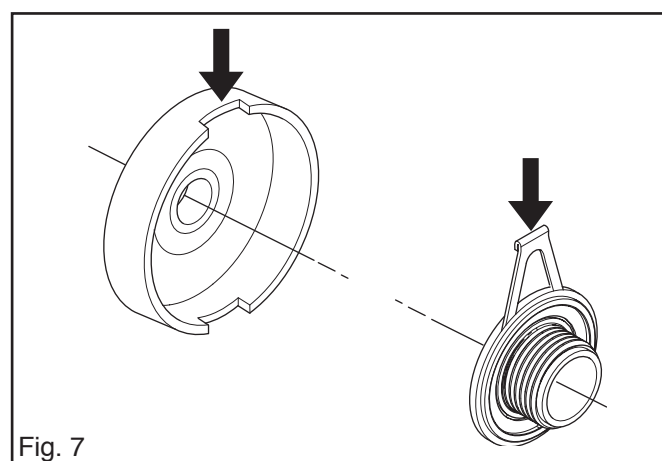

Fig. 7
5. Exercise care to ensure that the clutch drum and oil pump gear fit in the drum's cut-out. See fig. 7.